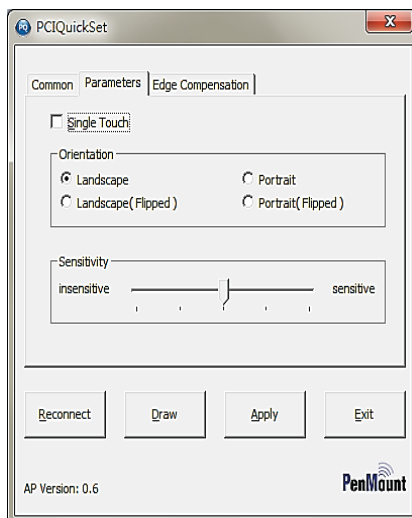

Fig.41
- Parameters: The user can change parameter settings in this tab, including single or dual-touch, touch panel orientation, and sensitivity. (Fig.41)